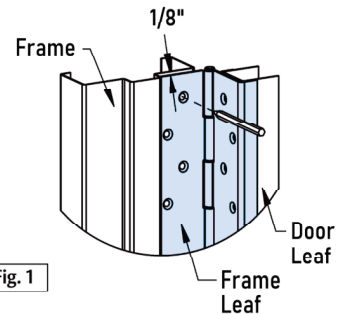

Fig. 1
A. Place hinge frame leaf on frame. Position top of hinge 1/8" maximum below header. Place hinge firmly against rabbet of frame (Fig. 1 & 2).